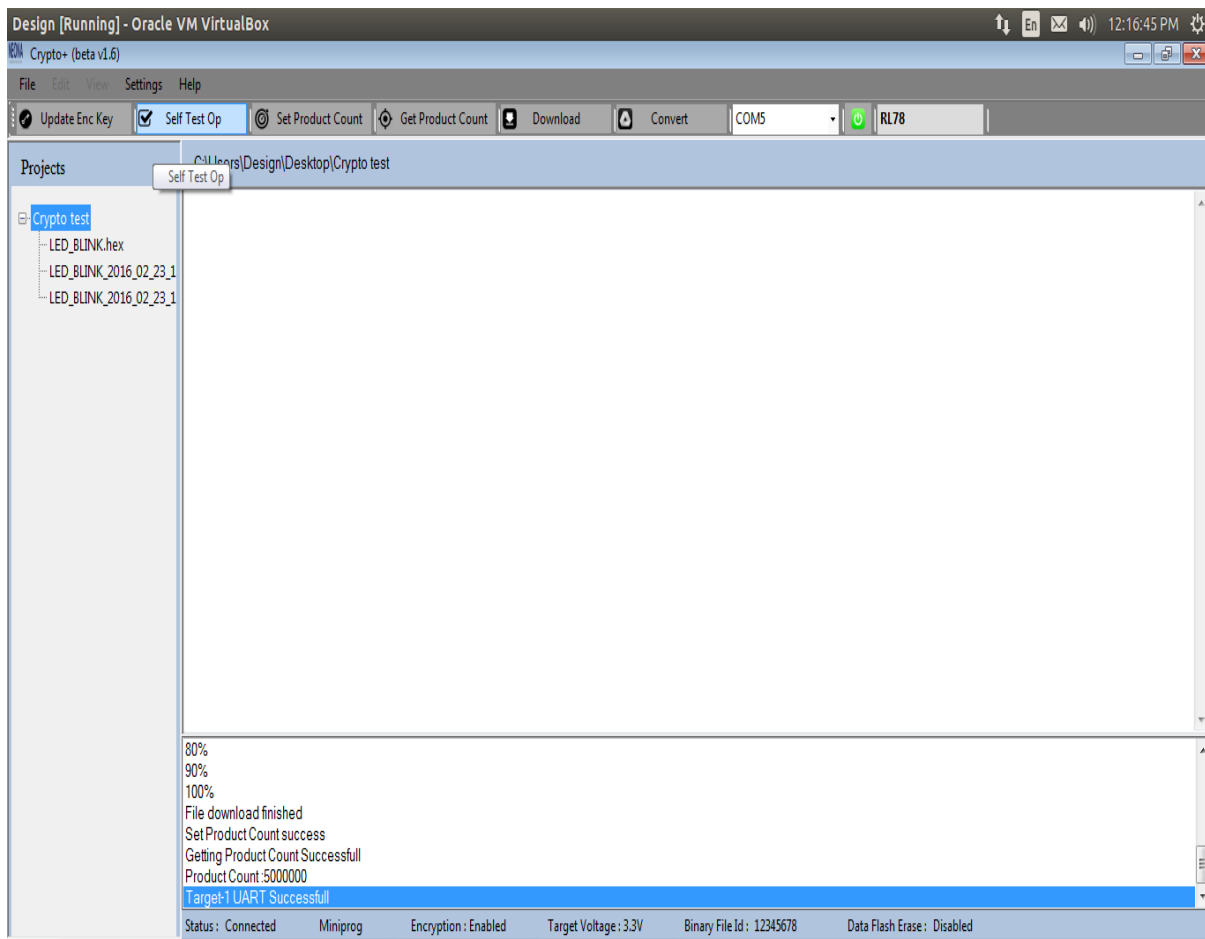

Figure 2.38
STEP 2: Click on **Self Test Op** as shown in figure 2.38.
STEP 3: Each target's status will appear in text view as shown in figure 2.38.